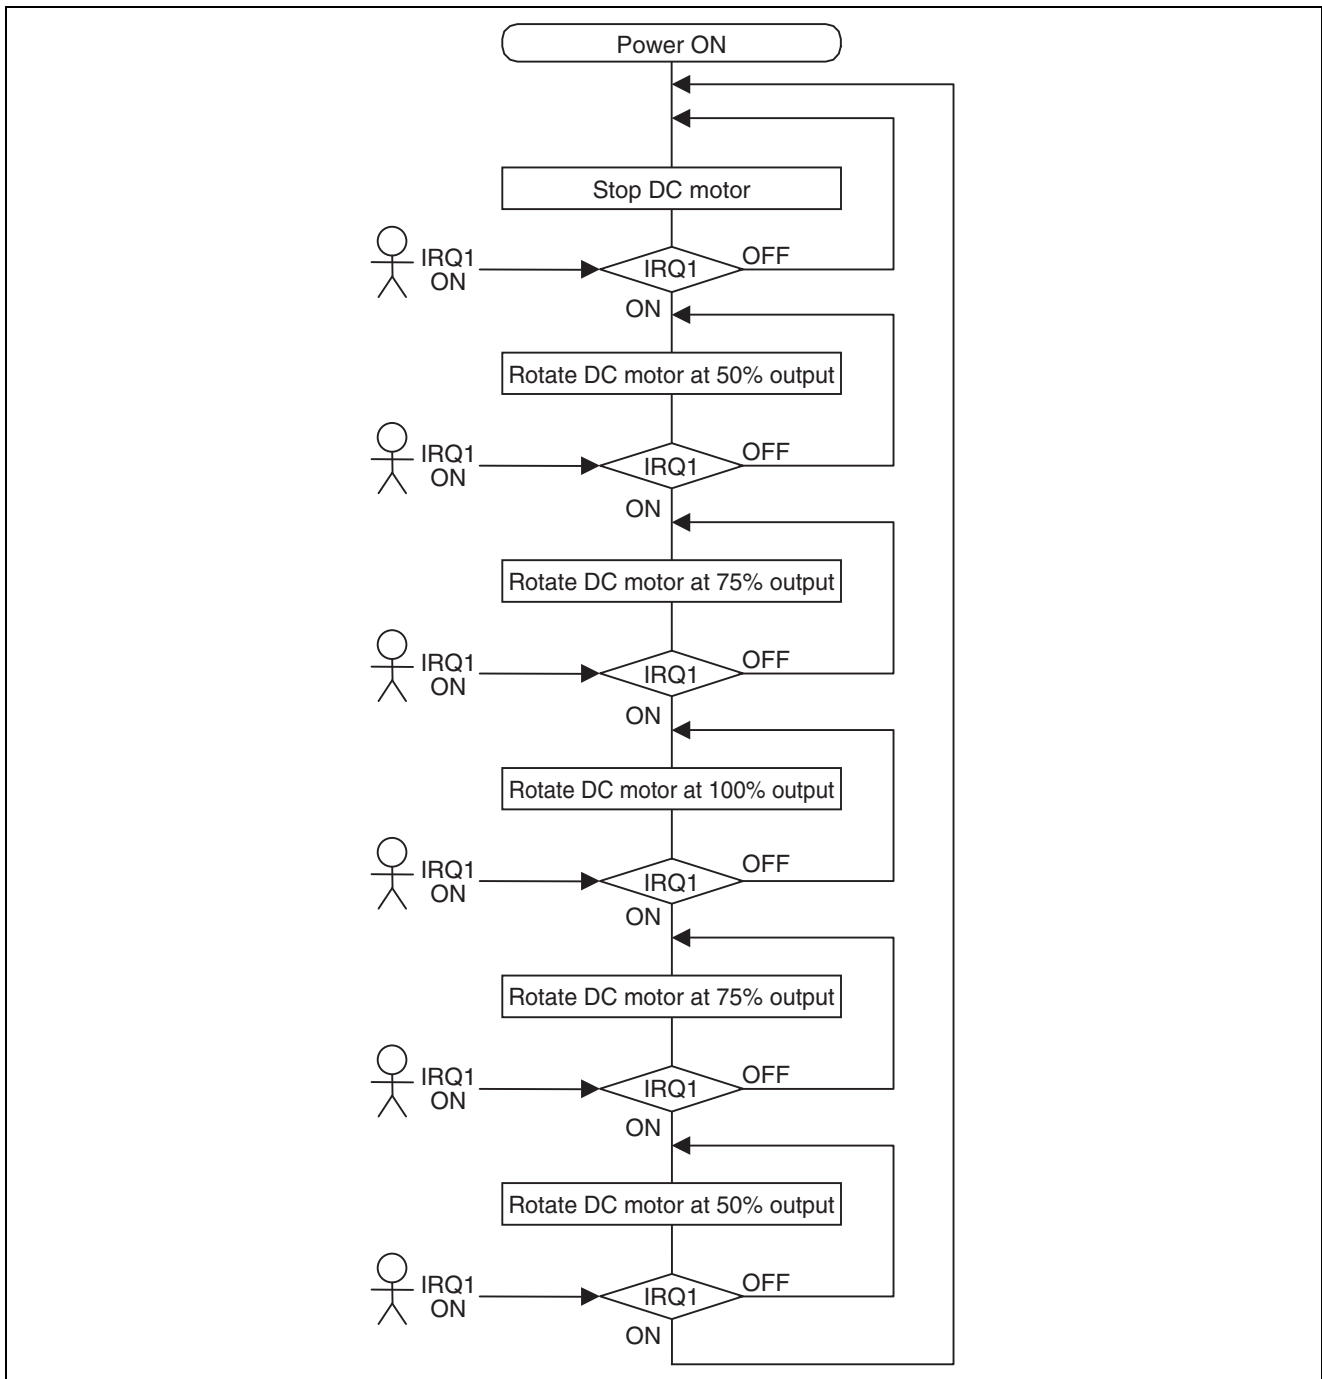

Figure 5 Flowchart of Brush-type DC Motor Control
2. Figure 5 is a flowchart illustrating brush-type DC motor control.